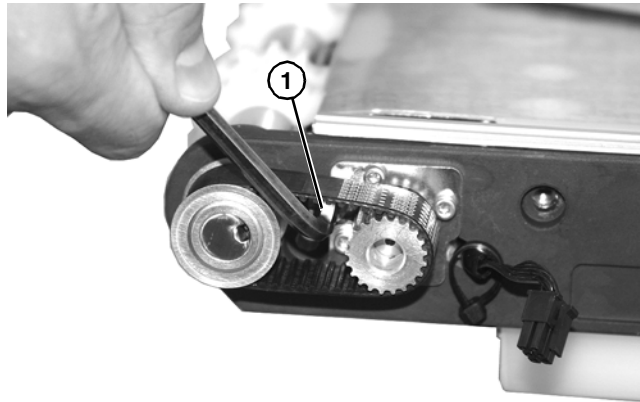

Figure 45
6. Loosen timing belt tension cam (**Figure 45, item 1**).